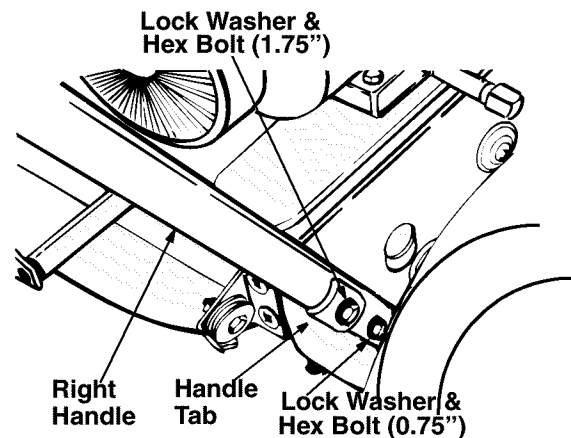

Figure 2
- Secure bottom hole in the handle to the snow thrower using 5/16 x .75" hex bolt and lock washer from the hardware pack (group A on page 5). Do not tighten at this time. See Figure 2.
- Place a handle tab over the upper hole in the right handle so that the contour of the handle tab matches that of the handle. See Figure 2. You will find the handle tabs and associated hardware in Group A of the hardware pack.